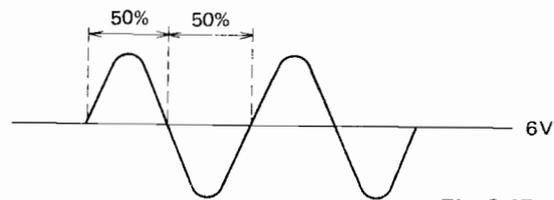

Fig. 2-17
2. Connect an oscilloscope to TP-4M, and adjust VR408 for a duty cycle of 50% shown in Fig. 2-17.